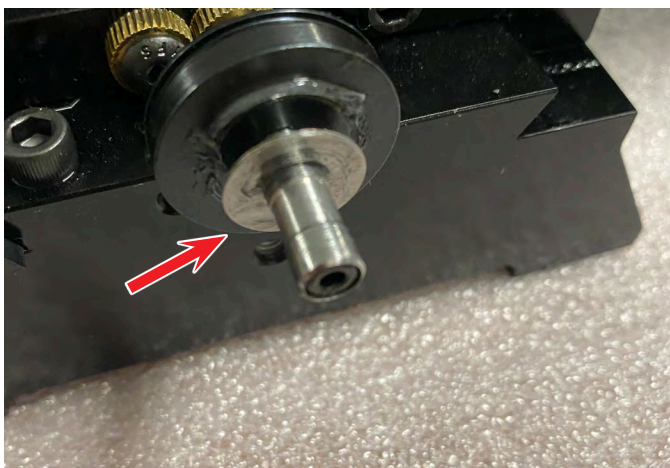

FIGURE 19
T. Place the shim washer back on (see Figure 19).